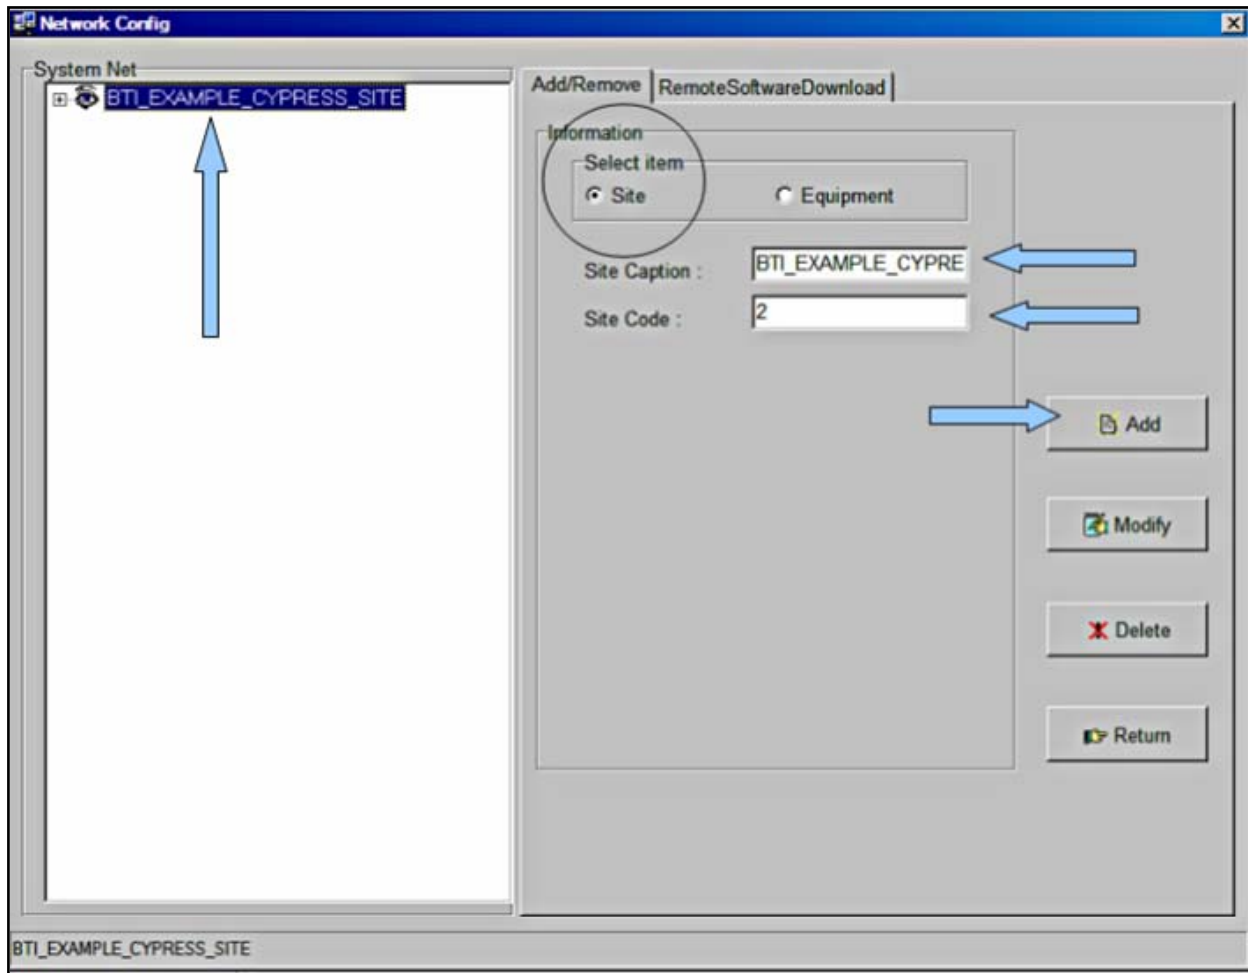

Figure 5-8 Adding a Site
3. Enter the Site name and the Site code. The example, *BTI_Example_Cypress_Site* is shown in **Figure 5-8**.